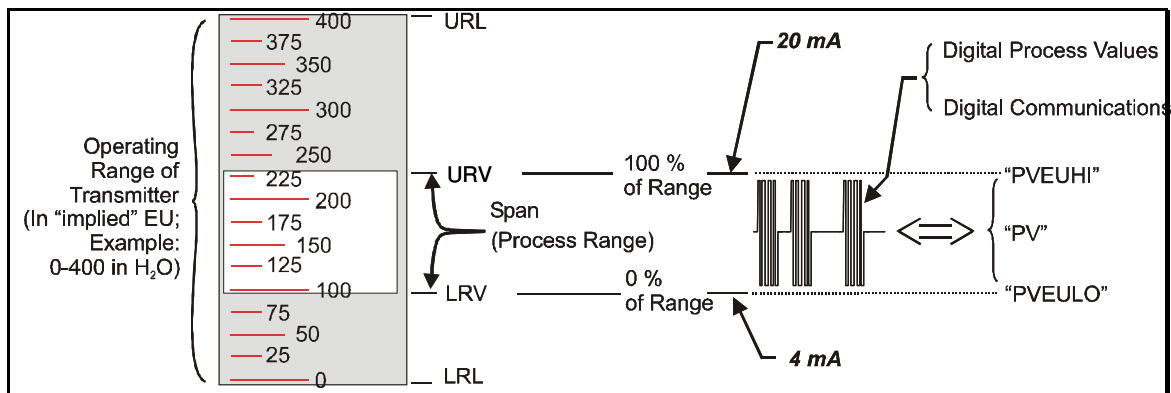

Figure 2-3 Honeywell DE Mode Value Scaling
Most of the operation of the Honeywell Smart Pressure Transmitter Digital Enhanced (DE) mode is similar to that of operation in the analog mode. The essential characteristics of operation in DE mode are shown in Figure 2-3 Honeywell DE Mode Value Scaling
As indicated at the right of Figure 2-3 Honeywell DE Mode Value Scaling, output values of process variables, as well as digital communications, are transferred to a receiving device digitally. The digital coding is Honeywell proprietary, which requires the use of DE-capable Honeywell control equipment.